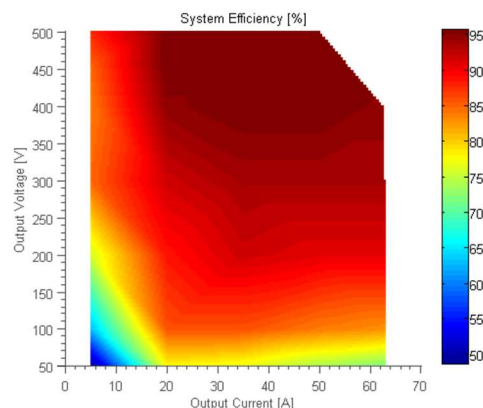

Figure 1: MPU-R3-500-63-FD
MPU-R3-500-63-FD is a power unit (PU) designed for 50 to 500V operation with optimal efficiency in the typical 400V battery voltage range as seen on Figure 1 (from product datasheet).